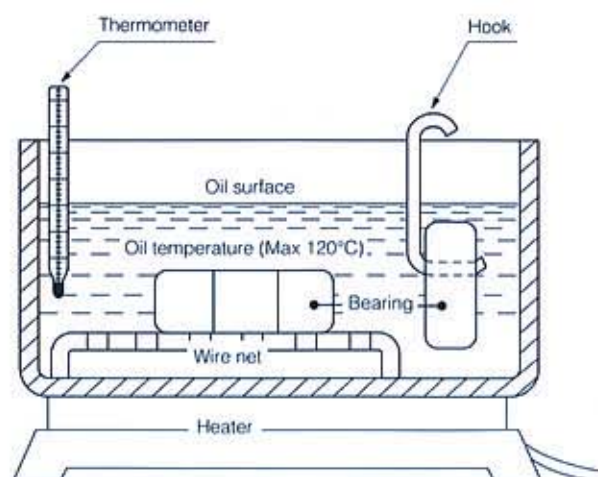

Fig. 3.27 Heating with oil bath
- The size of an oil bath used for heating should be enough to contain two to five bearings. The depth should also be enough to immerse these bearings completely. Be sure to put a wire net or similar material in the bath as shown in **Fig. 3.27** to prevent the bearings from contacting the bottom directly. Also, laying a beam over the top of the bath and hanging the bearings with a hook from the beam allows for ease of handling.